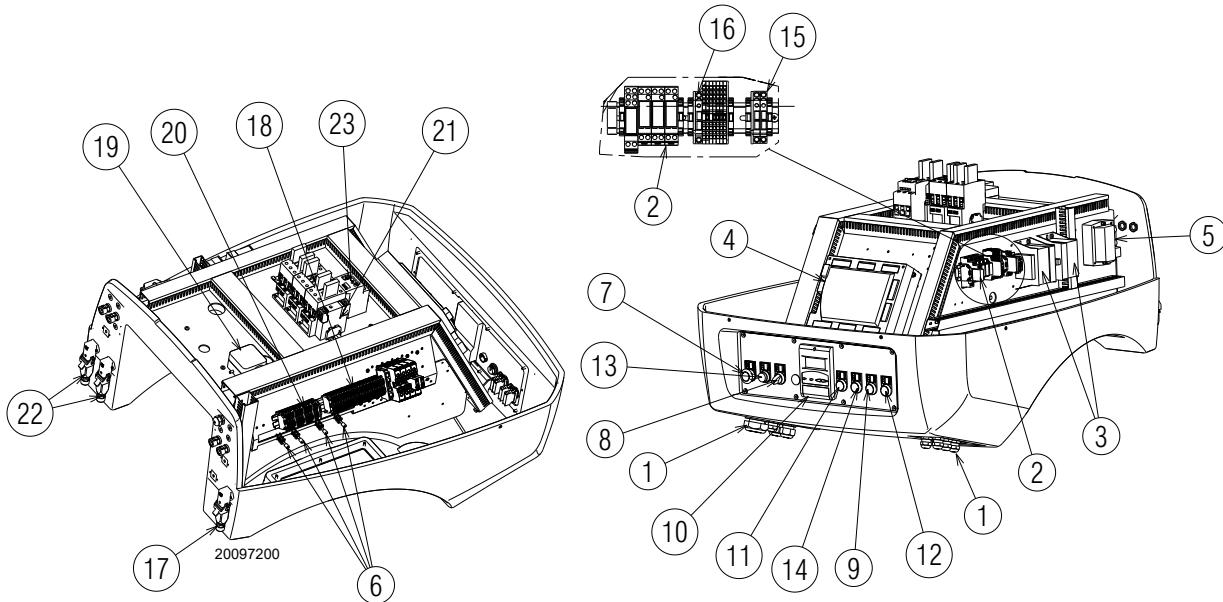

Fig. 6
- **Control box lockout:** switching on of button 13)(Fig. 6) (red led) signals that the burner is in lockout. release by pressing the pushbutton 13)(Fig. 6).